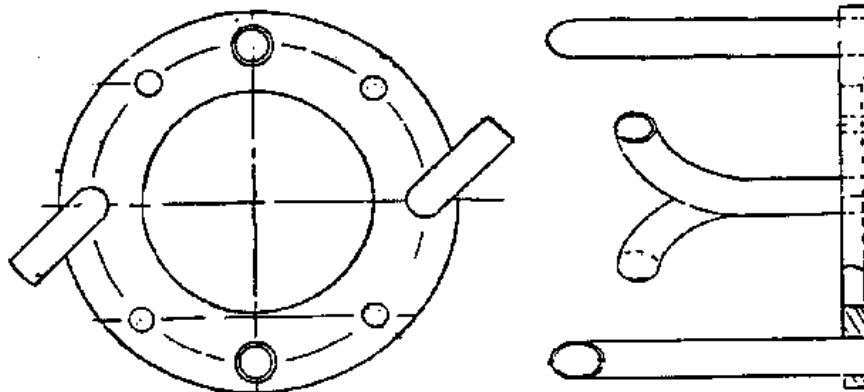

Fig. 2. 19D Series Spray Ring, Part No. 19DH21-112
2. Spray rings on 21 and 31 size compressors with low voltage motors should be changed to 19DH21-112 (Fig. 2) if: